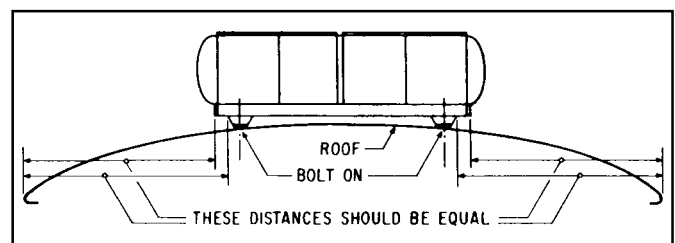

Figure 3.
D. Place the Light Assembly on the vehicle roof at desired location. Usually the unit should be installed approximately over the driver's head. Ensure that the light ends are equidistant from the roof gutters. Also, the distance from the windshield to each of the units should be the same (see figure 3).